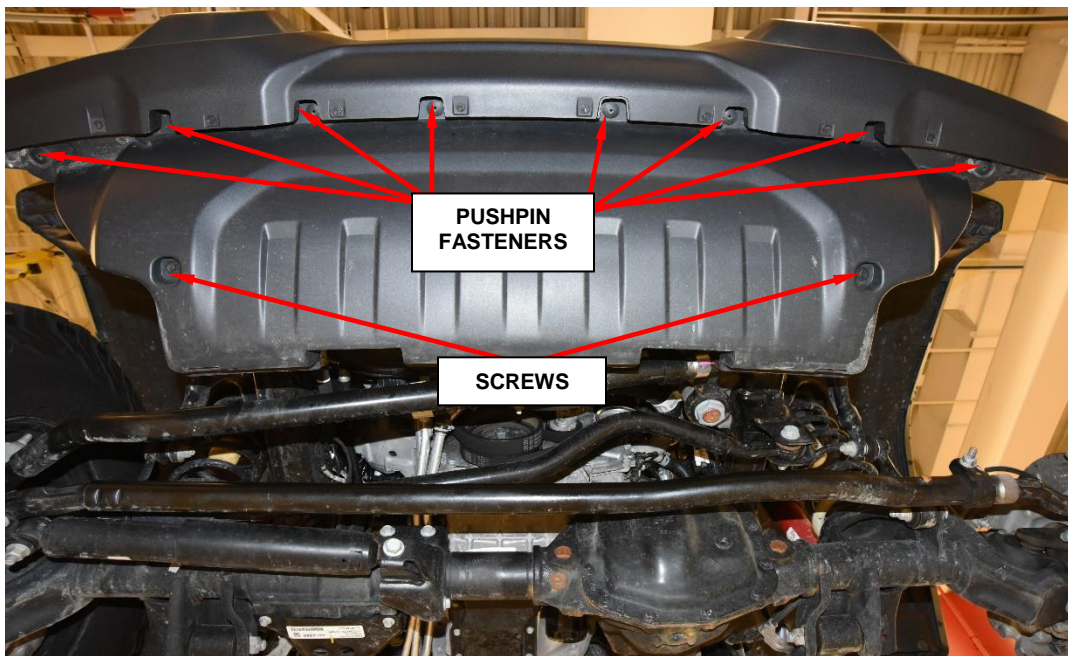

Figure 5 – Front Air Dam
4. Remove the front air dam two screws and eight pushpin fasteners (Figure 5).
19. Install the air dam and tighten the screws and insert the pushpins (Figure 5).